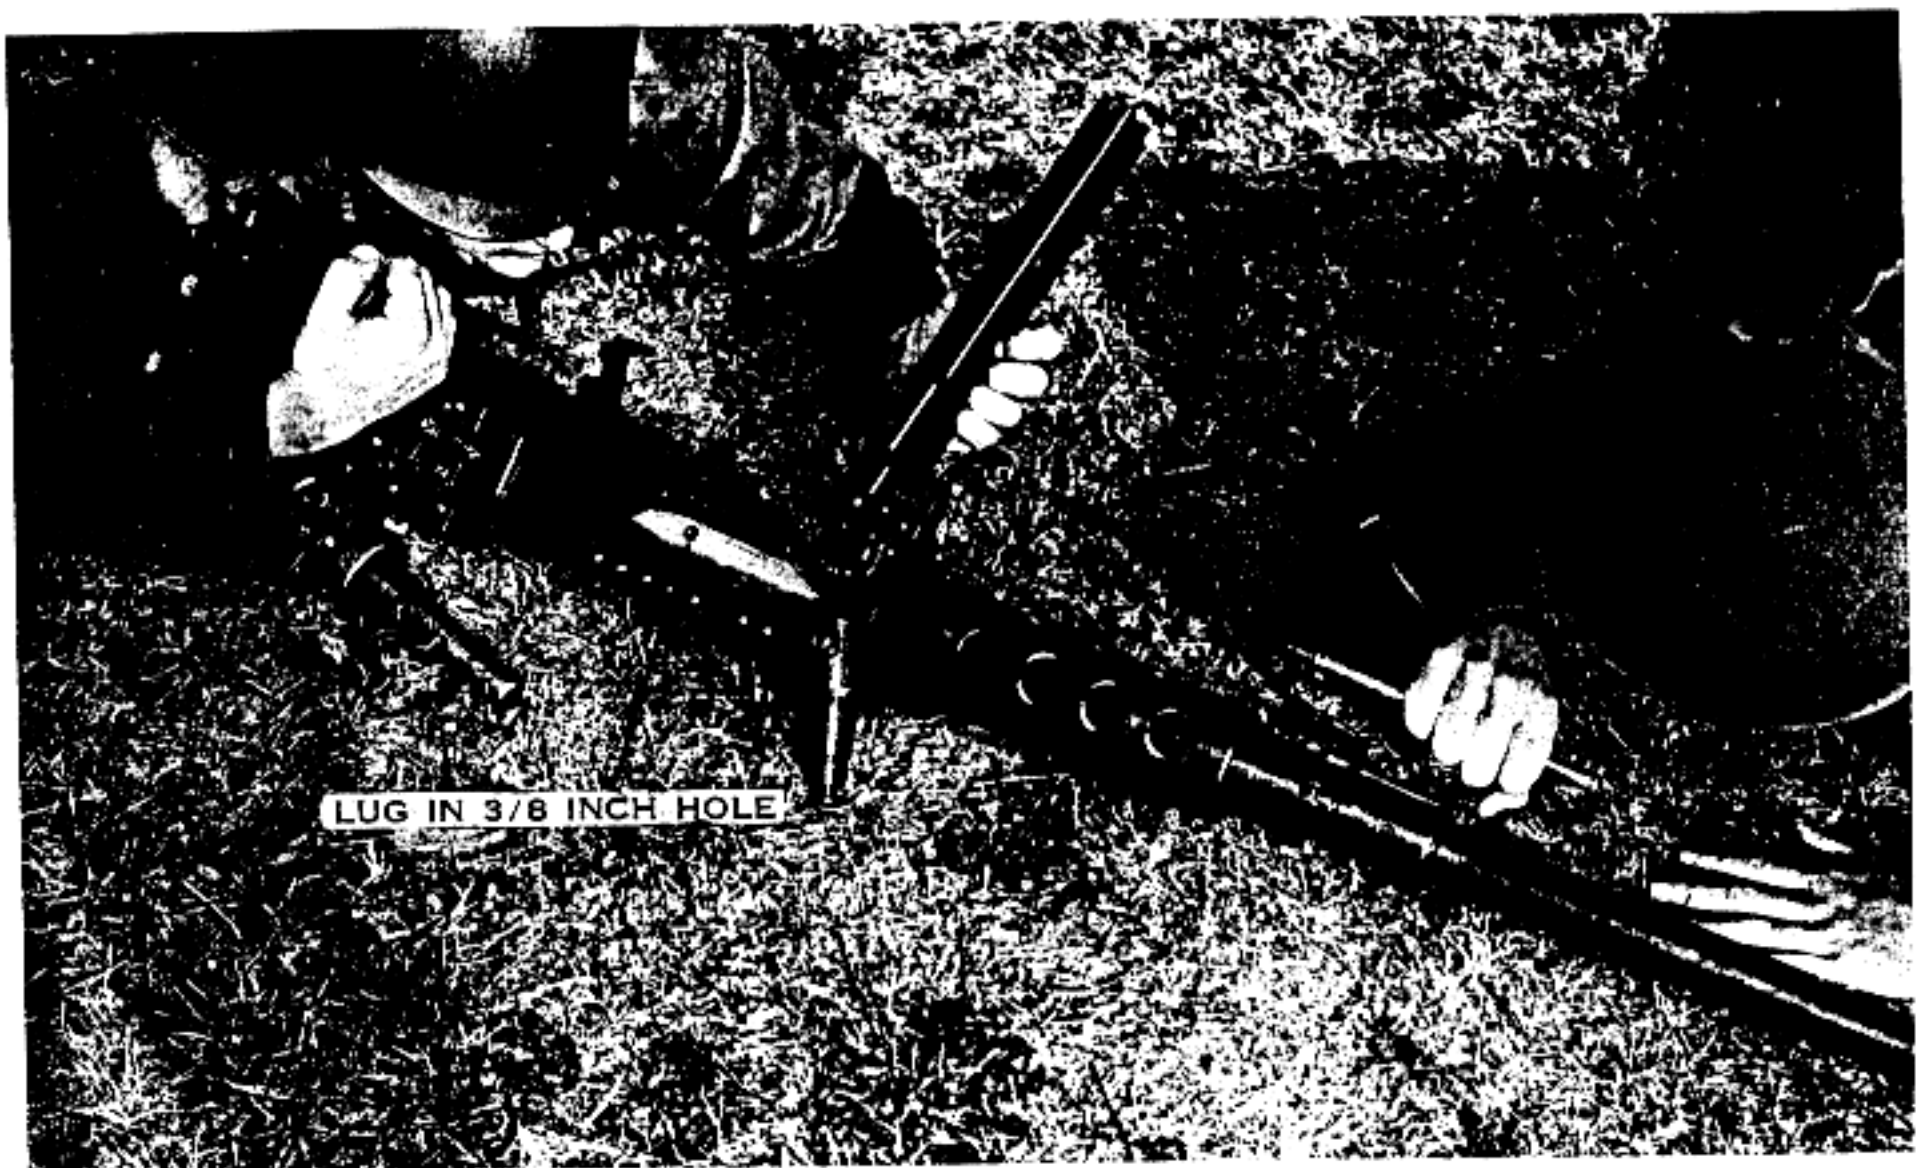

Figure 113. Screwing the barrel into the barrel extension.
(1) Barrel is clear.
(2) Barrel carrier assembly is securely attached to barrel.
(3) Barrel bearing is free of dirt.
(4) Metallic links are clean (open ammunition box).
(5) Belt is properly loaded and placed in box, the double looped end up.
(6) Dummy ammunition will be used during crew drill and NO LIVE ammunition is present.
(7) The box is closed and latched.
d. When the ammunition bearer completes his inspection, he moves to the gunner's position, with the barrel in his right hand and ammunition box in his left hand. With the aid of the gunner, the ammunition bearer screws the barrel into the barrel extension. The headspace and timing adjustment is now made as prescribed in paragraphs 11 and 12 (fig 113). The ammunition bearer remains on the left and on line with the gunner.
(1) The ammunition bearer reports: AMMUNITION CORRECT (or any deficiencies).
(2) The gunner reports: GUN AND AMMUNITION CORRECT (or any deficiencies).